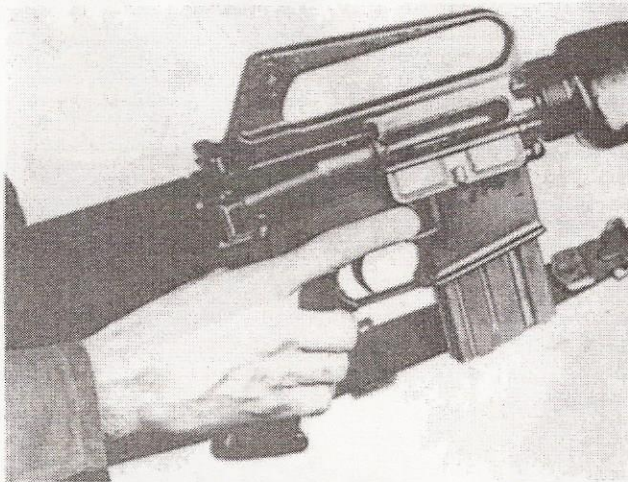

Figure 5. Removing the magazine.
b. Remove the magazine by applying pressure on the magazine catch button with the index finger and allowing the magazine to fall clear of the weapon into your hand (fig 5).